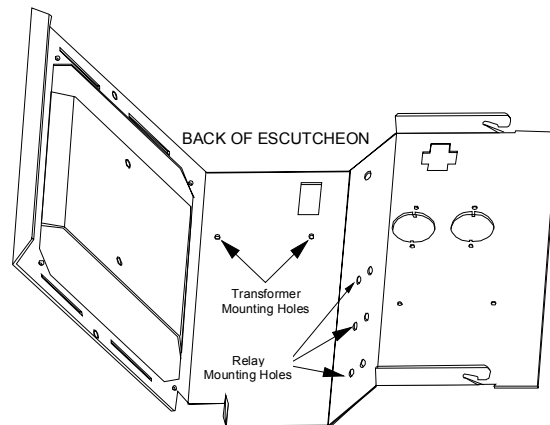

**Figure 9
- Connect the two brown wires to each of the 1/4-inch terminals on the control board marked HEATER (Figure 9).